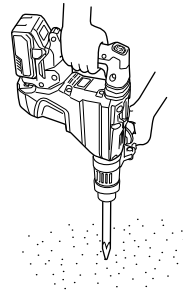

Fig. 21
2. How to chisel or demolish (Fig. 21)